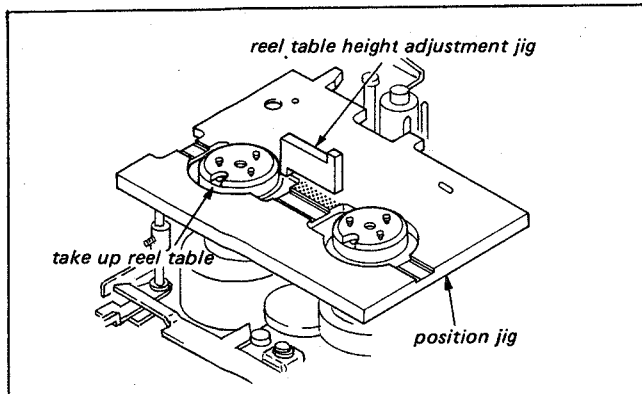

Fig. 4-1. Take-up reel-table height adjustment (EJECT mode)
3. Install the Reel-Table Height Adjustment Jig (Jig Ref. No. J-14) as shown in Fig. 4-1, in the shaded portion of the Position Jig.